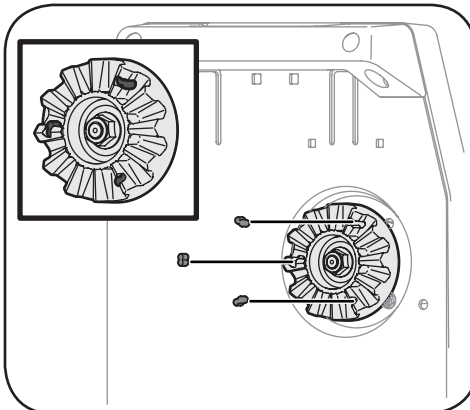

Figure 5-18
1. Gently pry each clutch bumper out of the dog clutch using a standard screw driver. See Figure 5-18.